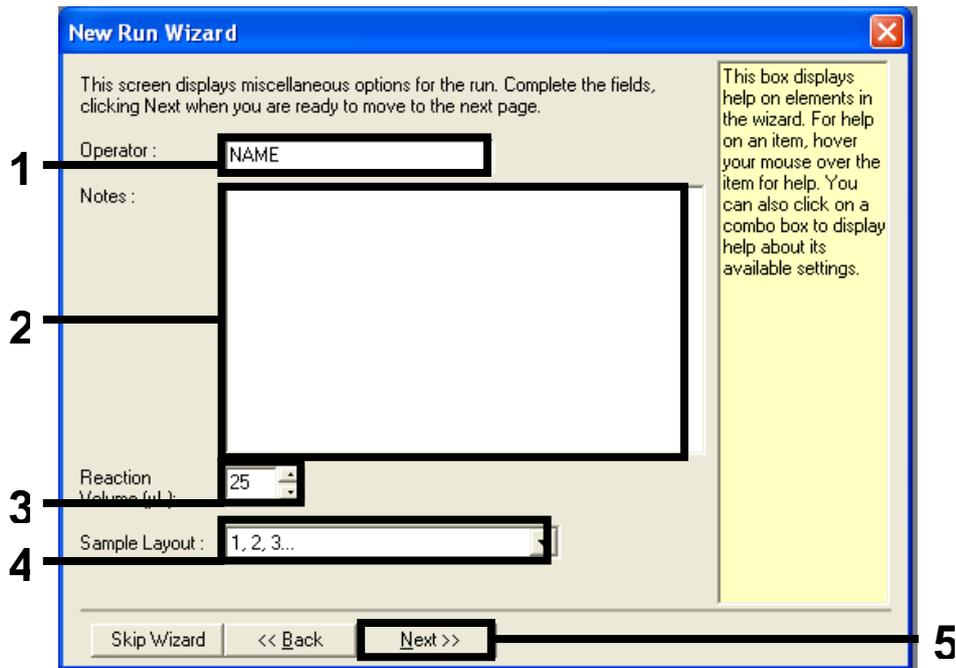

Figure 34. The "New Run Wizard" option screen (1 = "Operator"; 2 = "Notes" field; 3 = "Reaction Volume"; 4 = "Sample Layout" field; 5 = "Next" button).
3. Enter the name of the operator. Add any notes, check that the reaction volume is set to 25 and "Sample Layout" reads "1, 2, 3...". Click "Next" (Figure 34).